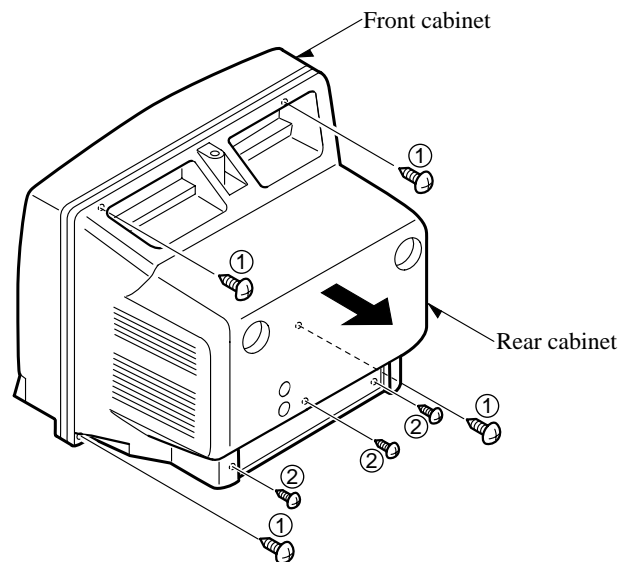

Fig. 1-1
- (1) Remove four screws ① and three screws ②, then remove the rear cabinet in the direction of the arrow. (See Fig. 1-1)